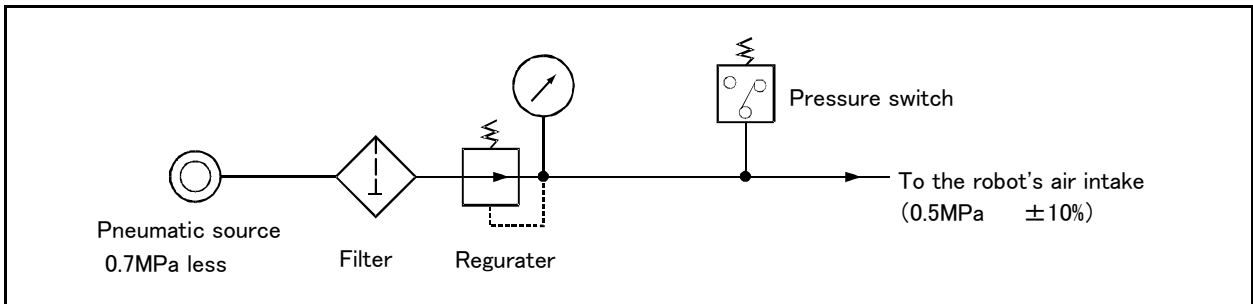

Fig.2-16 : Air supply circuit example for the hand
Fig. 2-16 shows an example of pneumatic supply circuitry for the hand.
- (1) Place diodes parallel to the solenoid coil.
- (2) When the factory pneumatic pressure drops, as a result of the hand clamp strength weakening, there can be damage to the work. To prevent it, install a pressure switch to the source of the air as shown in Fig. 2-16 and use the circuit described so that the robot stops when pressure drops. Use a hand with a spring-pressure clamp, or a mechanical lock-type hand, that can be used in cases where the pressure switch becomes damaged.
- (3) Supply clean air to the vacuum generation valve when you use clean type robot.